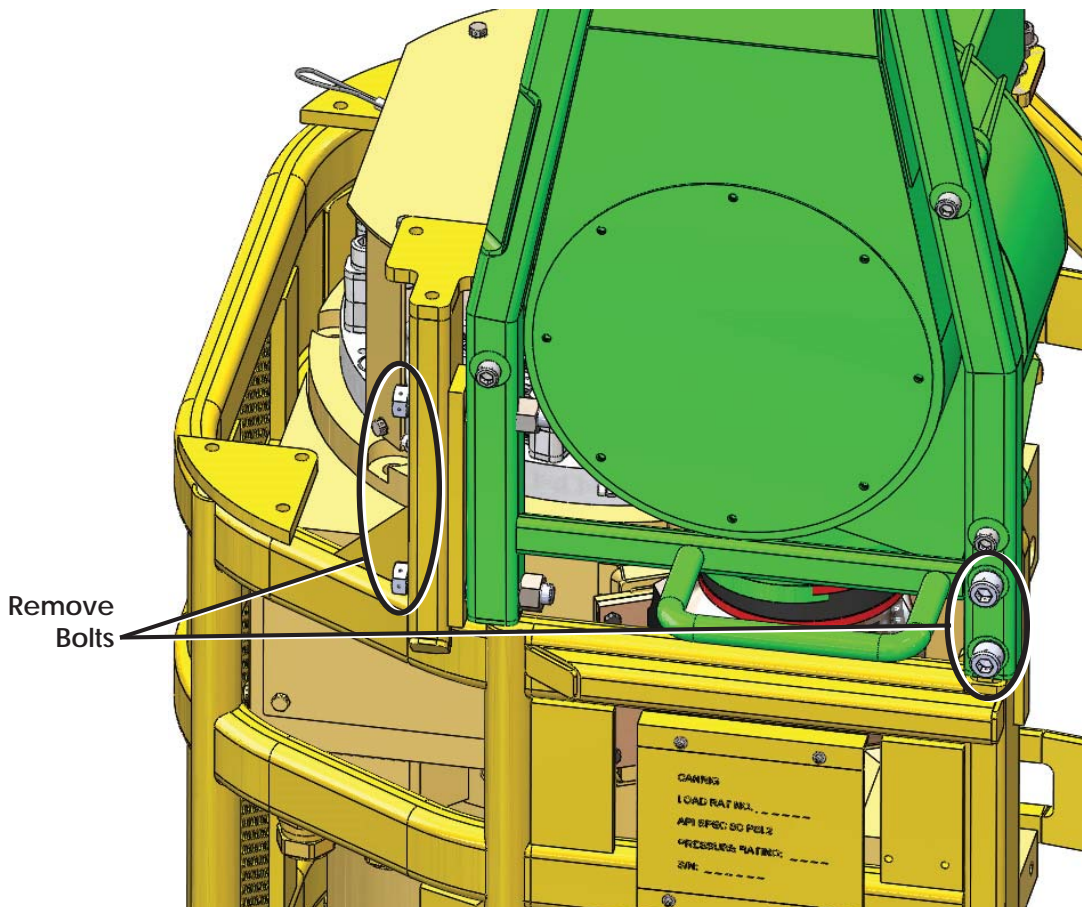

Figure 3: Remove bolts from blower A-frame
2. Remove (2) 1-8UNC x 3" Lg. bolts and (2) 1-8UNC locknuts that fasten the blower A-frame to the top drive guard from the front as shown on Figure 3.
3. Remove (2) 1-8UNC x 7" Lg. bolts and (2) 1-8UNC locknuts that fasten the blower A-frame to the top drive guard from the side as shown on Figure 3.